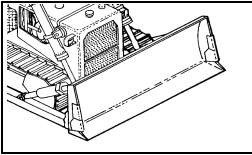
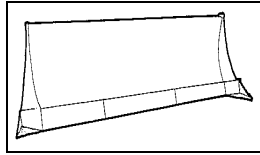
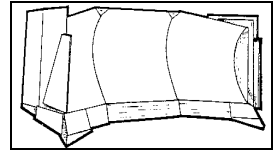

Fig 7-2-1 Straight Blade
Fig 7-2-2 Angle Blade
Fig 7-2-3 Universal Blade
- a. a straight bulldozer blade (Fig 7-2-1), angle blade (Fig 7-2-2) or universal blade (Fig 7-2-3),